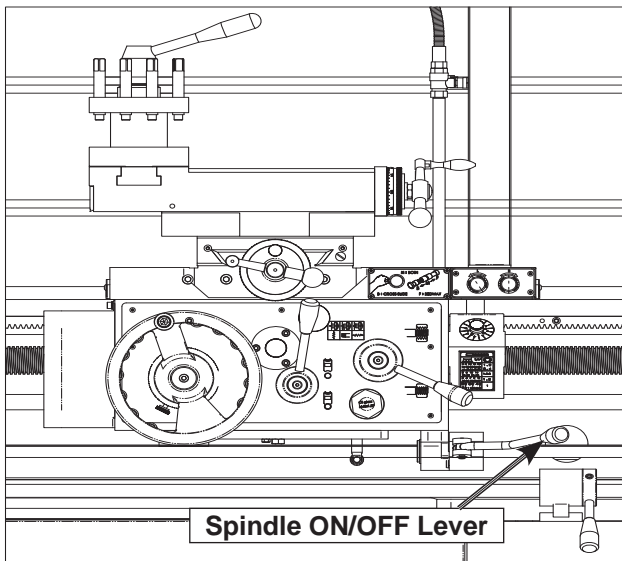

Figure 2. Spindle ON/OFF lever-setup.
1. Move the spindle **ON/OFF** lever to the **OFF** (center) position, as shown in **Figure 2**.